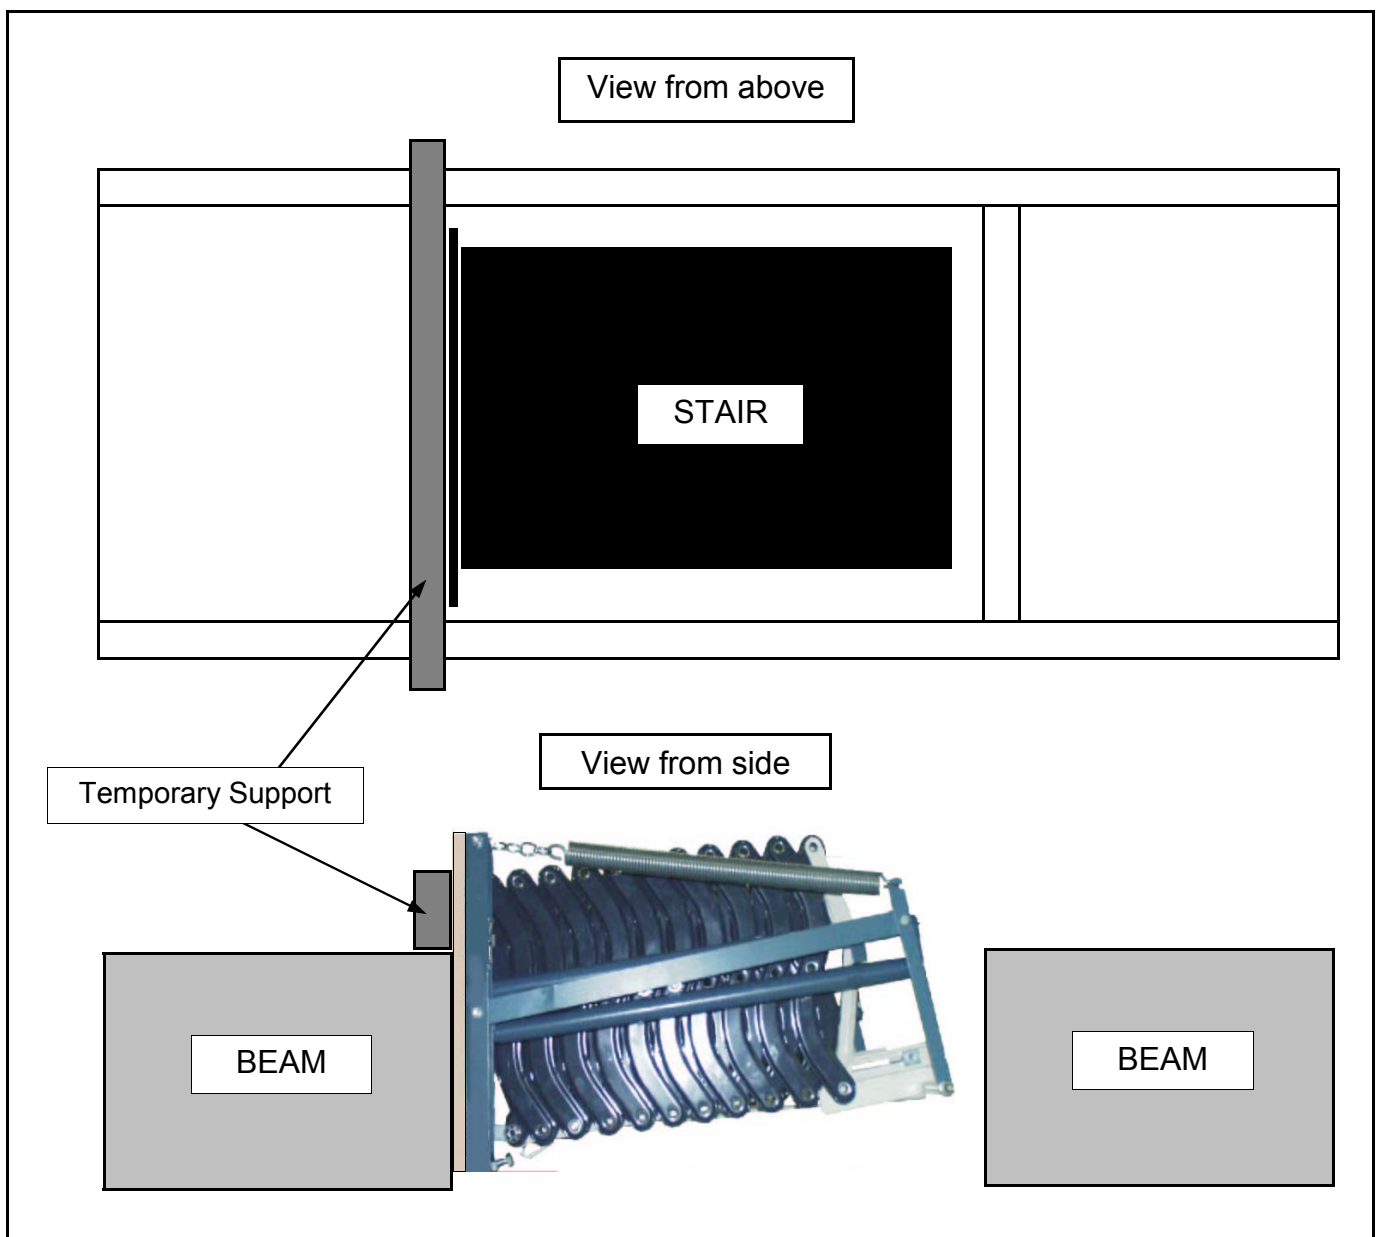

Figure 3
1. Measure height of beam that stair will be anchored to. Figure 3. Allow space for thickness of door if one will be installed. **Lofty does not come with an access door.**